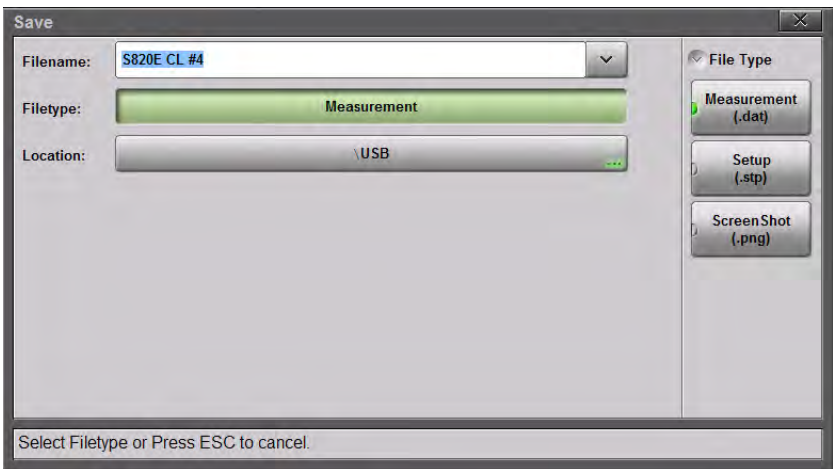

Figure 10-5. Set the File Type
In the Save dialog box (**File (7) > Save**), press **Filetype**, then select **Measurement**, **Setup**, or **ScreenShot** (Figure 10-5). The default file type is **Measurement**.
A Filetype extension (Figure 10-5) is automatically added to the Filename based on the chosen Filetype.